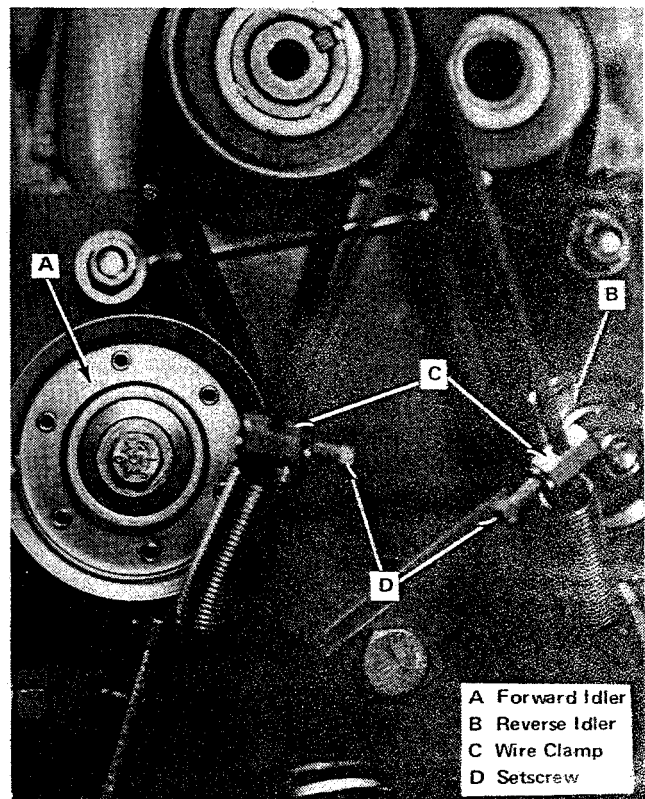

Figure 17. Clutch Adjustment
The two clutch levers operate separate idler pulleys. When a clutch handle is squeezed to engage the clutch, the idler pulley (items A or B, figure 17) must tension the related belt. Power should then be transferred from an engine pulley to the driven pulley without belt slippage. If a clutch is not disengaging properly or if belt slippage occurs, adjust the clutch as follows:
1. Loosen the setscrew (item D, figure 17) for the clutch desired.